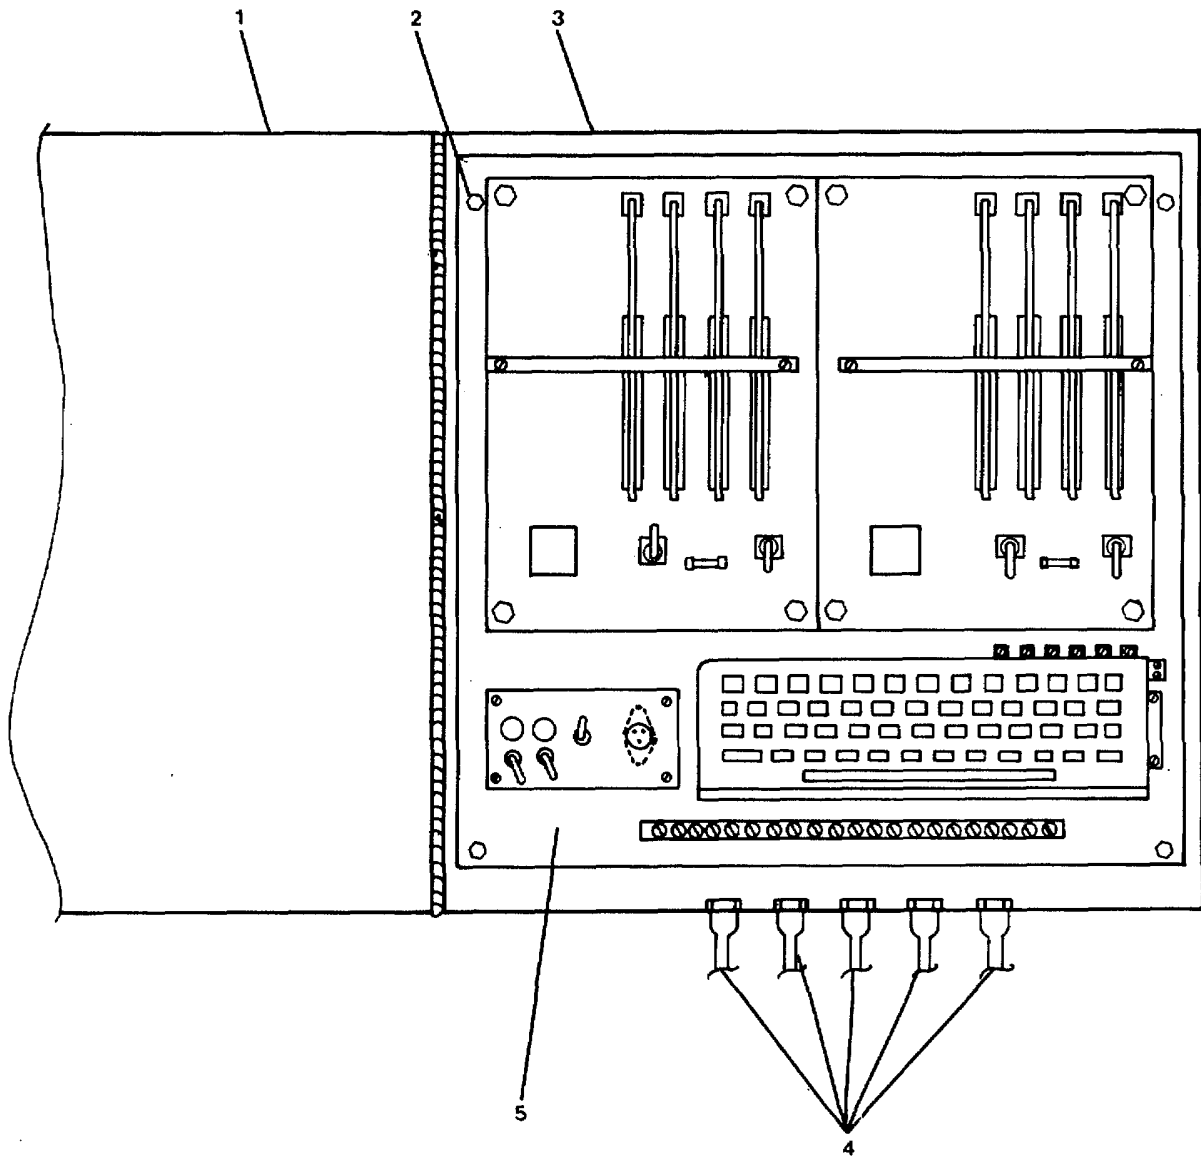
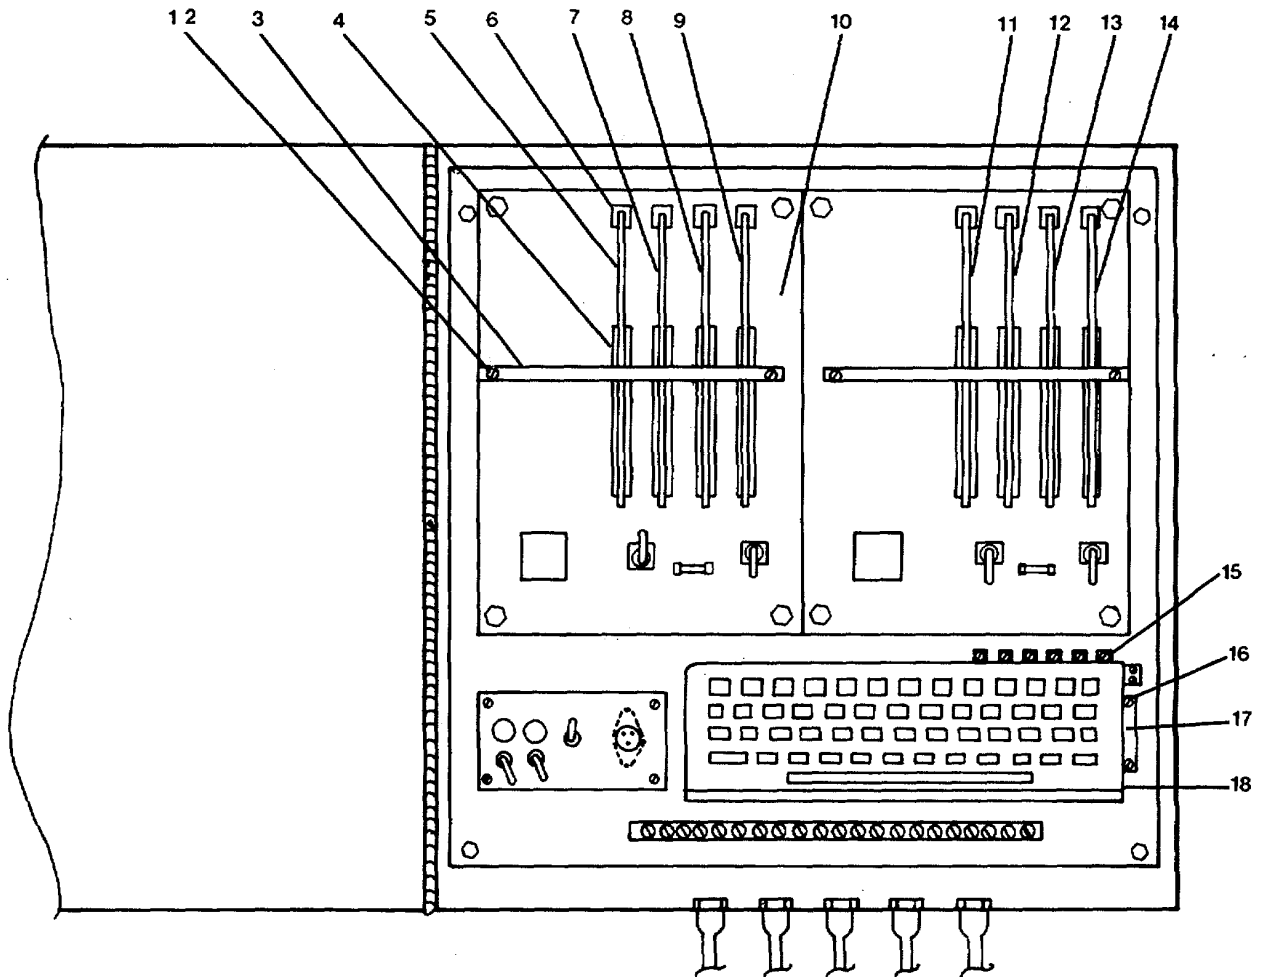

FIGURE 3-115. Central Processing Unit Removal.
FIGURE 3-116. Central Processing Unit Repair.
- a. Open door (1, Figure 3-115) of enclosure (3).
- b. Tag and disconnect electrical leads to central processing unit (CPU) at connections (4).
- c. Remove four hex head bolts (2) securing CPU (5) and enclosure (3) to bulkhead.
- e. Remove screws (1, Figure 3-116) and sleeves (2) securing crossbar (3) to terminal board (10). Remove crossbar (3).
- f. Grasp printed circuit board (multi-card) (5) near the bottom and pull slightly upward until board is free of connector (4).
- g. Slide circuit board straight out until free of upper retaining slide (6).
- i. Tag and disconnect electrical leads at terminal strip (15).
- a. Install data entry keyboard (18, Figure 3-116) and secure to bracket (17) with two machine screws (16).
- b. Connect electrical leads at terminal strip (15).
- c. Slide printed circuit board (multi-card) (5) into upper retaining slide (6).
- d. Push on the circuit board until it is firmly seated in connector (4).
- f. Position sleeves (2) and install crossbar (3); secure with screws (1).
- g. Position central processing unit (5, Figure 3-115) and enclosure (3) on bulkhead.
- h. Secure with four hex head bolts (2).
- i. Connect electrical leads to CPU at connections (4).
- j. Close door (1).